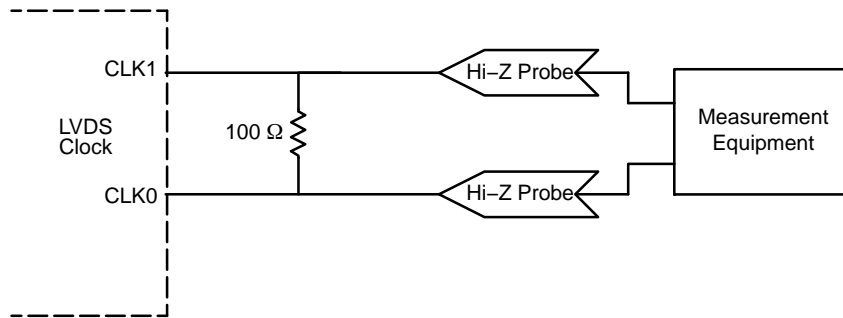

Figure 9. LVDS Parameter Measurement
13. LVDS outputs require $100\ \Omega$ receiver termination resistor between differential pair. See Figure 9.